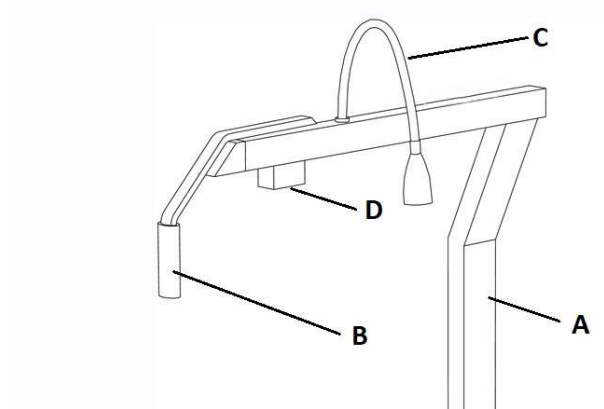

Figure 9: Physiologically pregelatinised phoropter arm (rigid)
- Physiologically pre-inclined phoropter arm (rigid) with phoropter splint (Figure 9).